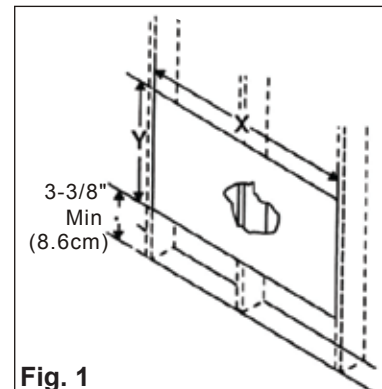

Fig. 1
3. Measure between inside edges of every other stud as shown in Fig. 1.
*Carefully measure and cut an opening with the following dimensions depending on your model. (See Fig. 1 and 2.)